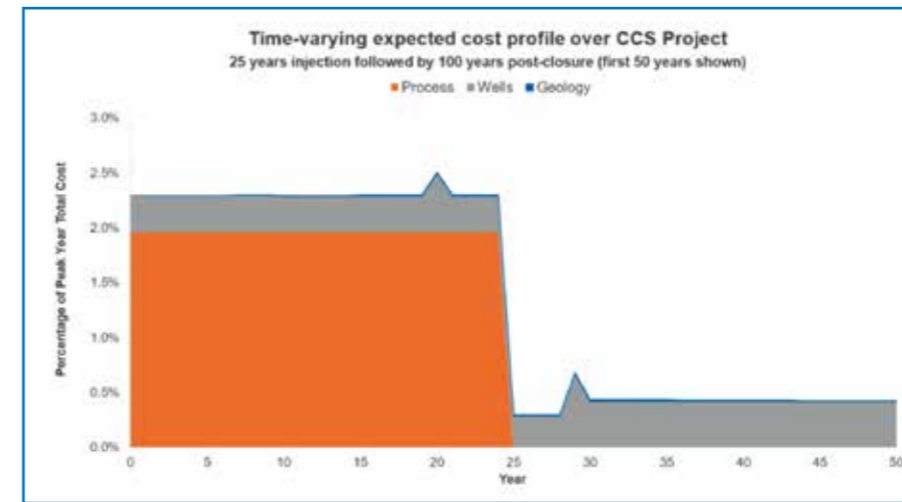

Figure 2 - Time Dependent CO2 Leak Liability throughout a CCS Project
- A time-varying expected cost profile throughout the project (e.g. Figure 2)